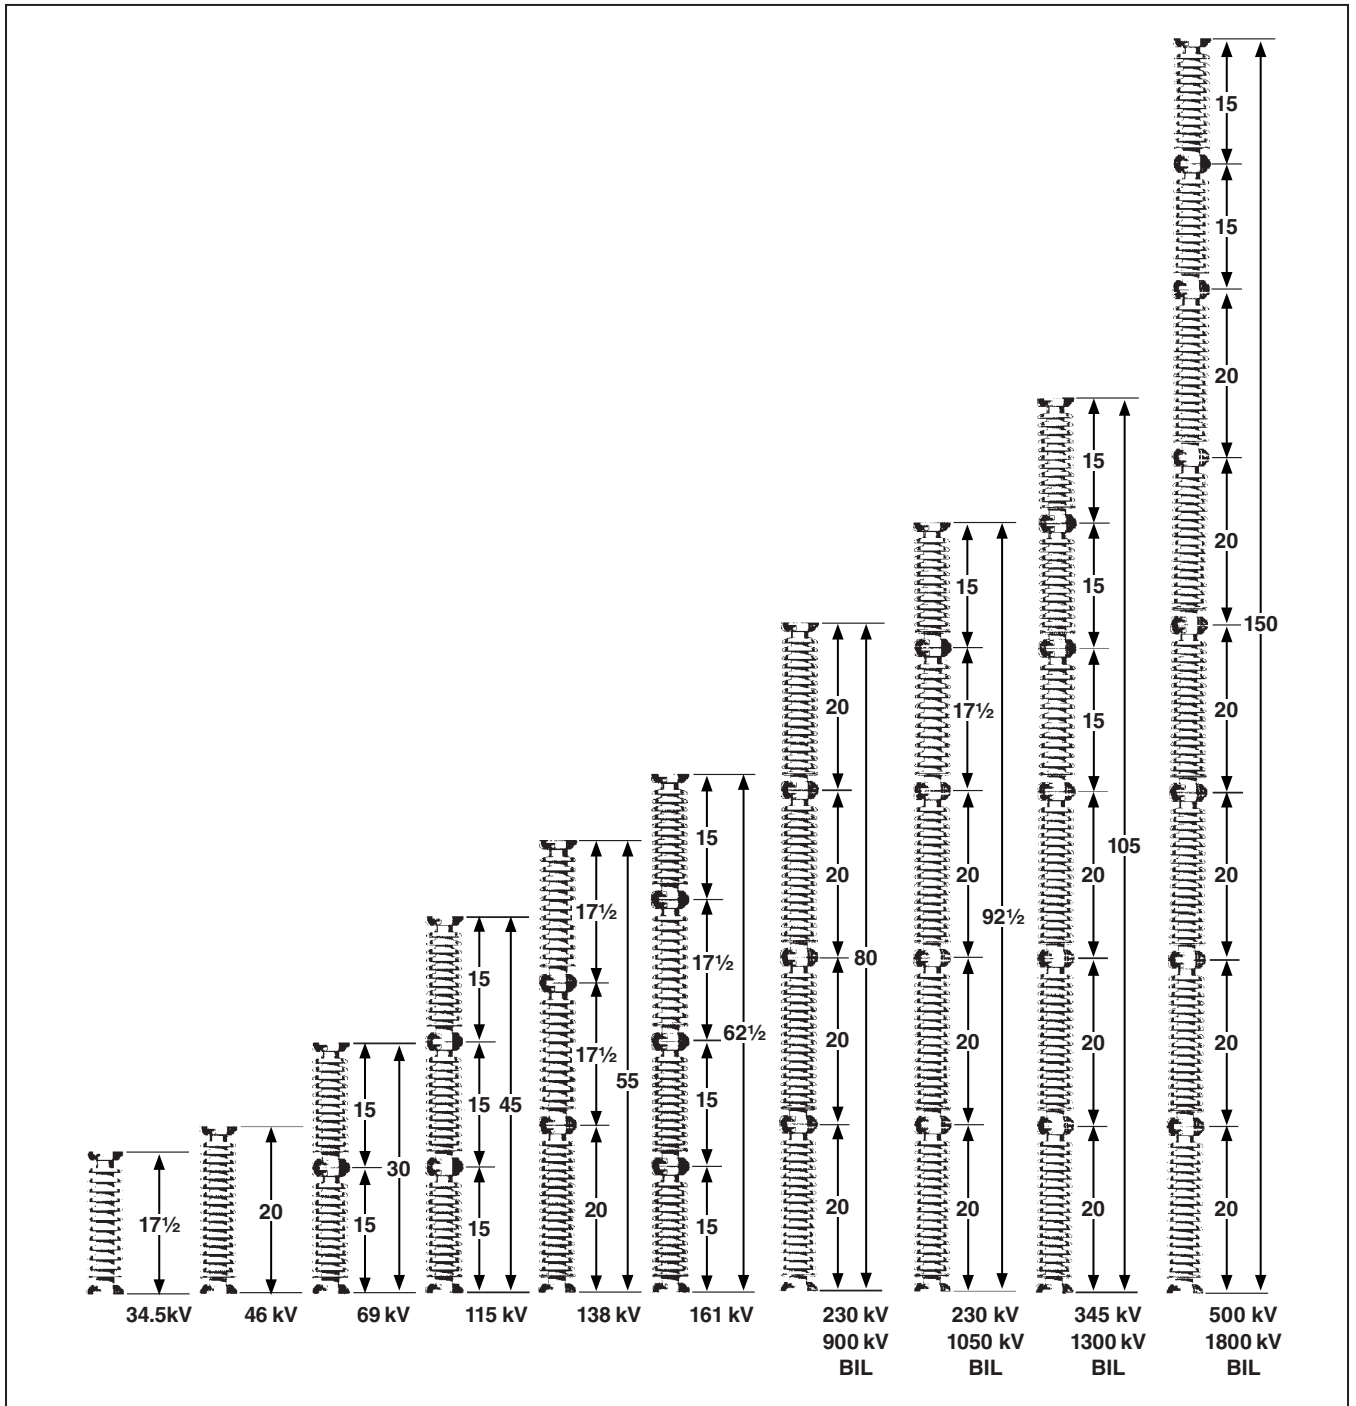

Figure 4. Insulated operating shafts.
**For circuit-switchers rated 230 kV:** The insulated operating shafts are two sub-assemblies shipped in a carton attached to the pole-unit base. Bolt the two sub-assemblies together into a single shaft as shown in Figure 4 on page 9, using the  $\frac{3}{8}$ -inch hex-head stainless steel cap screws, lockwashers, and hex nuts provided.